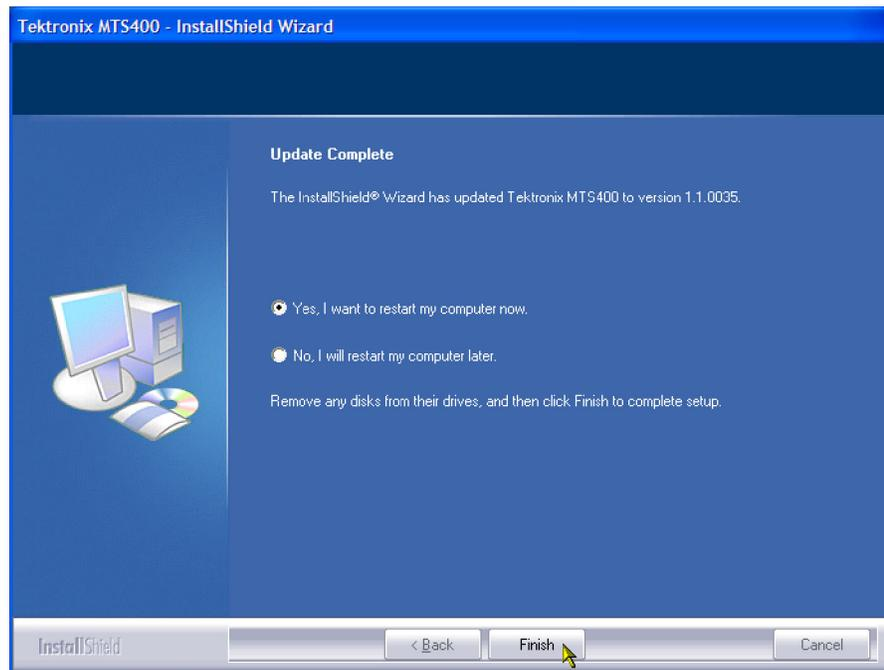

Figure 2: InstallShield Wizard update complete screen
6. When the upgrade installation is complete, the Update Complete screen is displayed as shown in Figure 2.